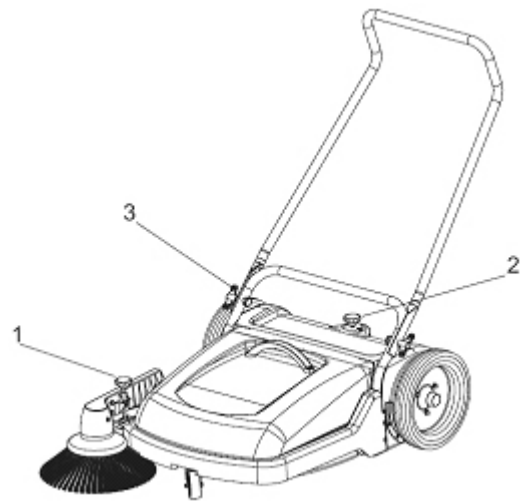
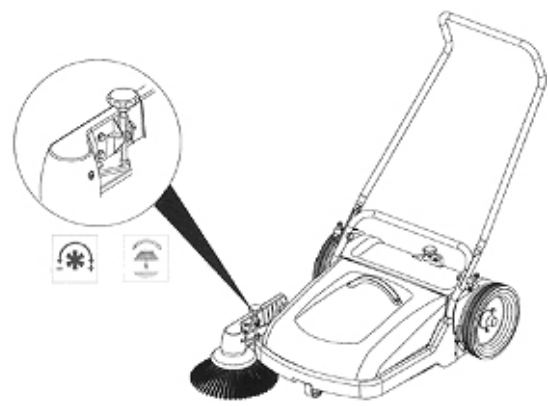
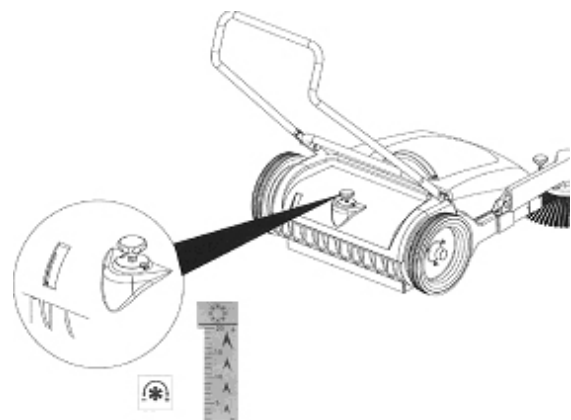

Fig. 6
Fig. 7
Fig. 8
3.1 Pressure adjustment knob for side brush (1 in Fig. 6 and Fig. 7)
3.2 Pressure adjustment knob for main brush (2 in Fig. 6 and Fig. 8)
Used for setting the pressure of the main brush. It must be set to assure an efficient cleaning operation (Fig. 8).
3.3 Handle thumbscrews (3 in Fig. 6)